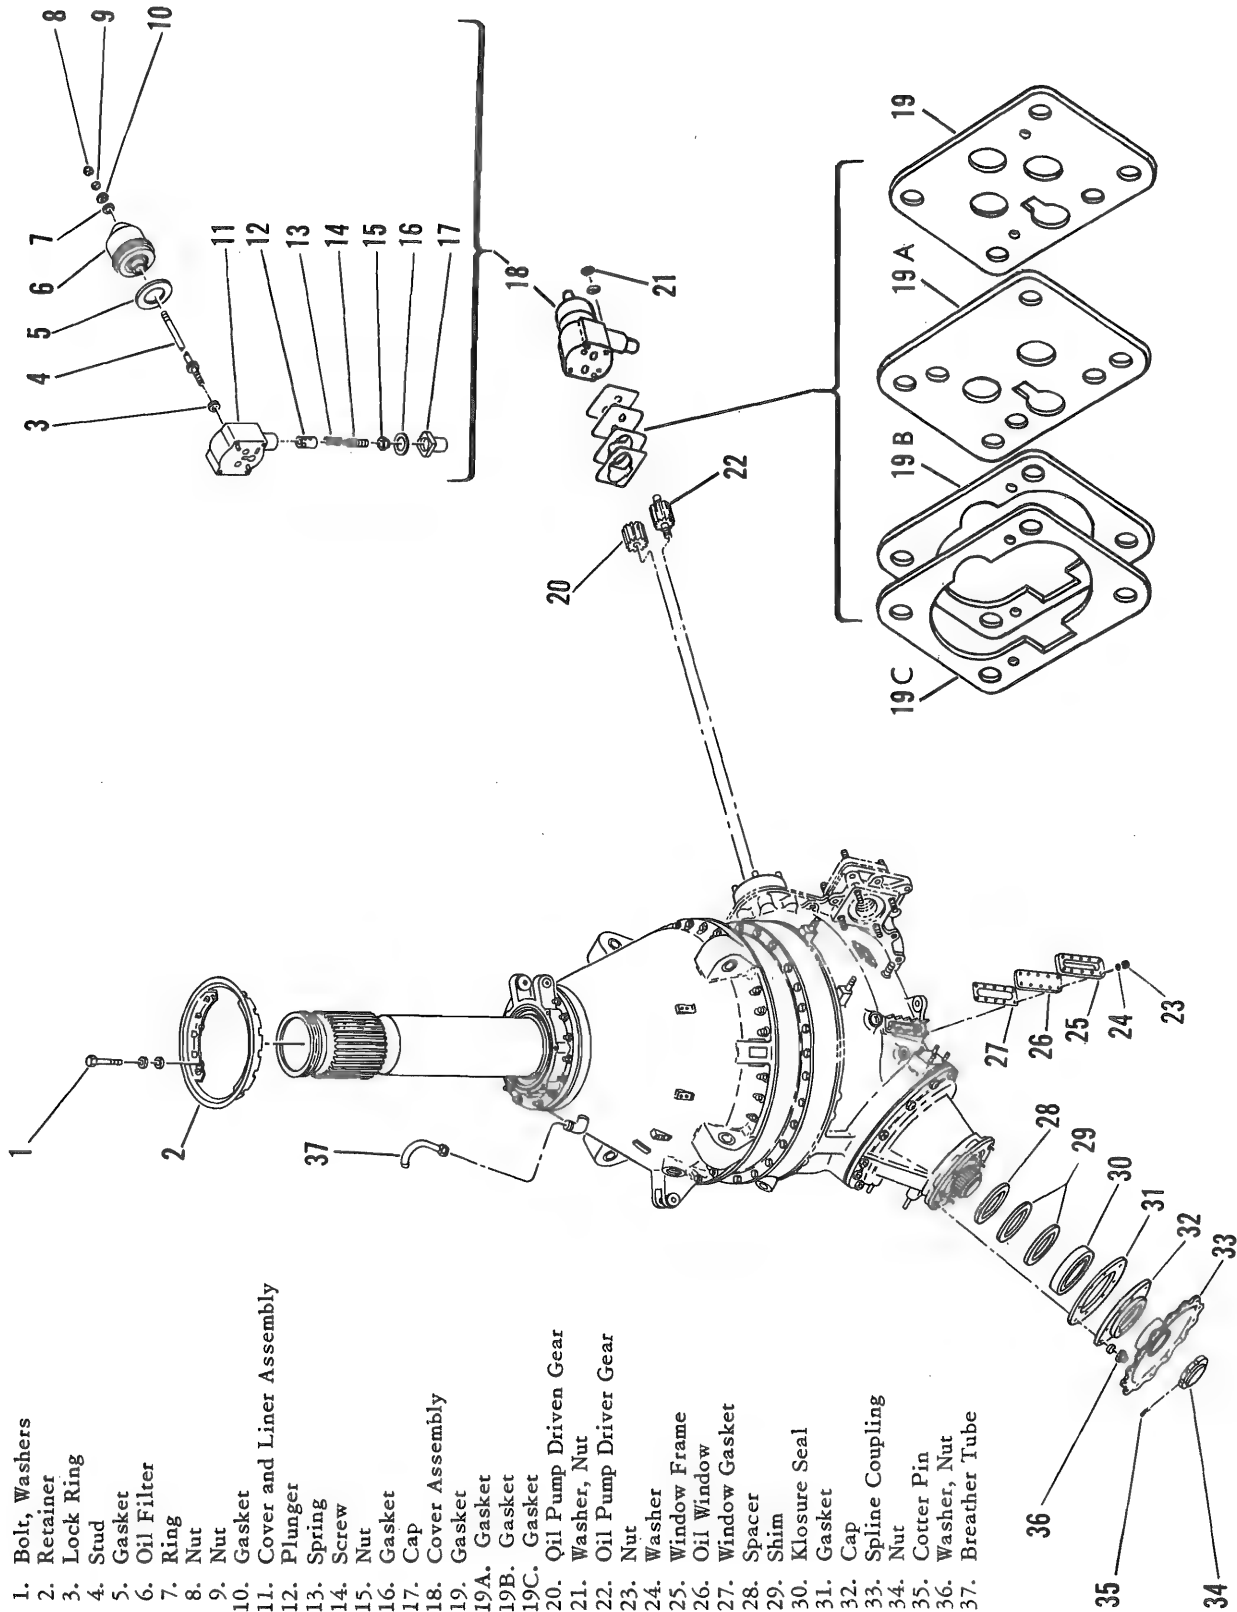

Figure 4-7. Main Gear Box Assembly - Replacement of Parts
4-27. REPLACEMENT OF UPPER HOUSING RETAINER, BREATHER TUBE, AND OIL LEVEL WINDOW. (See figure 4-7.)
a. Remove washers and nuts (21, figure 4-7) securing cover assembly (18) to oil pump housing. Slide cover assembly (18) and gaskets (19, 19A, 19B, and 19C) off studs.
b. Remove two nuts (8 and 9), ring (7), and gasket (10) securing oil filter (6) to cover and liner assembly (11). Slide oil filter from cover and liner assembly. Remove gasket (5) from oil filter.
c. Back off cap (17) and remove gasket (16) from bottom of cover and liner assembly (11).
d. Remove nut (15), screw (14), spring (13), and plunger (12).
4-30. **INSPECTION.** (See figure 4-7.)
4-32. **REASSEMBLY.** (See figure 4-7.)
Assemble unit with new gaskets throughout. (See figure 4-7 for proper gaskets and stack-up).
d. Remove washers and nuts that secure cap to input housing. Slide flange and cap from bevel gear. Support cap and press out closure seal (30, figure 4-7), using seal pusher, part No. S1670-10487. Remove shims (29) and spacer (28).
e. To reassemble, install spacer (28) and shims (29). Coat outside surface of new seal with Garlock sealing compound, No. 101, manufactured by Garlock Packing Co, and inside surface with petrolatum, Federal Specification VV-P-236. Coat liner of cap with Garlock sealing compound, No. 101, manufactured by Garlock Packing Co. Using seal pusher, part No. S1670-10487, press seal in place.